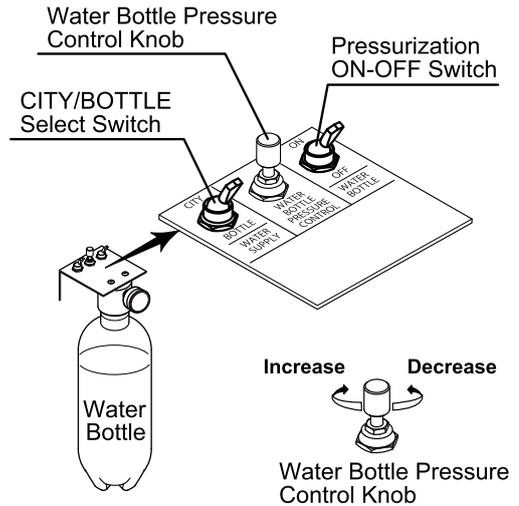
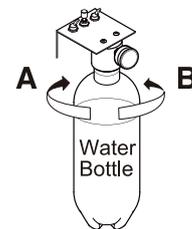

Fig.3-27 Clean Water System
Fig.3-28 Remove or Attach the bottle
(7) Clean Water System (Optional) (Fig.3-27, Fig.3-28)
- When the pressurization ON-OFF switch is set to ON, the water bottle may be used. (Fig.3-27)
The pressure increases when the knob is turned clockwise, and decreases when the knob is turned counterclockwise. (Fig.3-27)
**Remove or attach the bottle (Fig.3-28)**